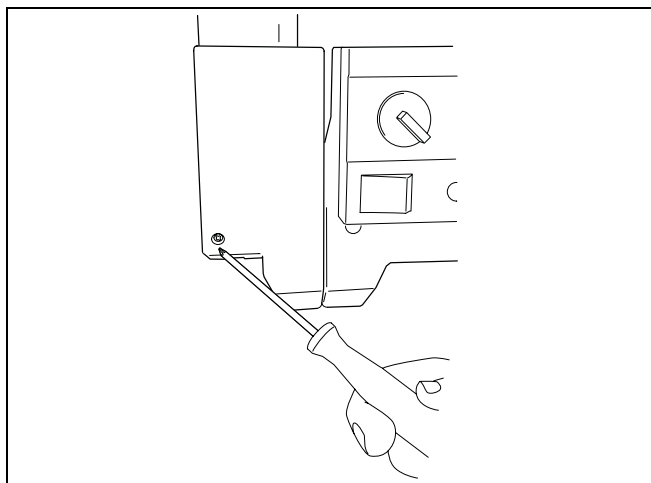

fig. 21 Connection box cover
- Open the connection box (→ fig. 21).